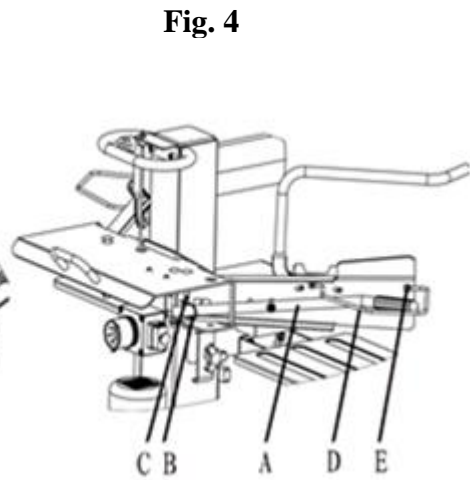
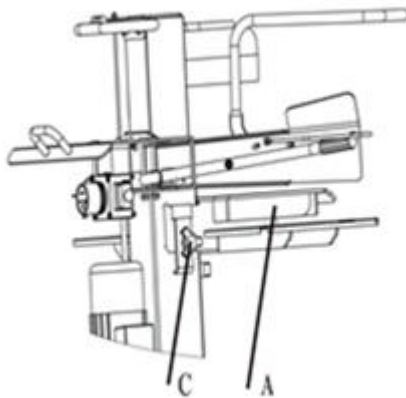
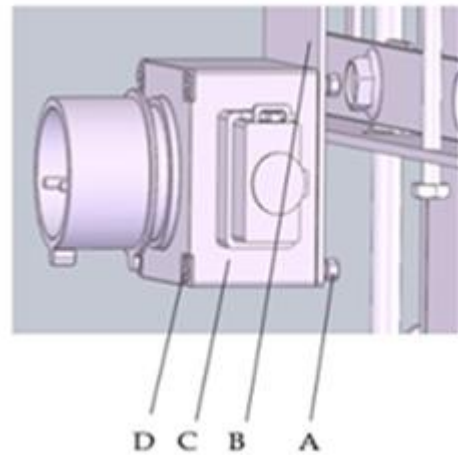

Fig. 4
Fig. 5
Fig. 6
4.2.2- Mounting the fixing plates (Fig.4)
- Insert the right fixing plate (A) into the rocker switch (B) and screw it with a hexagon bolt (C), a washer and a safety nut. Tighten the nut so that the mounting plate can be moved.
- Fit the protection bars (D) on the two fixing plates using 2 Phillips screws (E) for each plate.
4.2.3- Mounting the table (Fig.5)
- Depending on the size of the wood to be cut, the table (A) can be mounted at different heights. Locking levers (C) are available at each installation level.
4.2.4- Installation of the switch (Fig.6)
- Fit the switch (C) to the plate (B) with 4 M4X60 (D) crosshead bolts and 4 M4 nuts.
- The left storage tray (A) must be mounted according to the instruction in Fig.6 and secured with 2 lock nuts M8 (B).